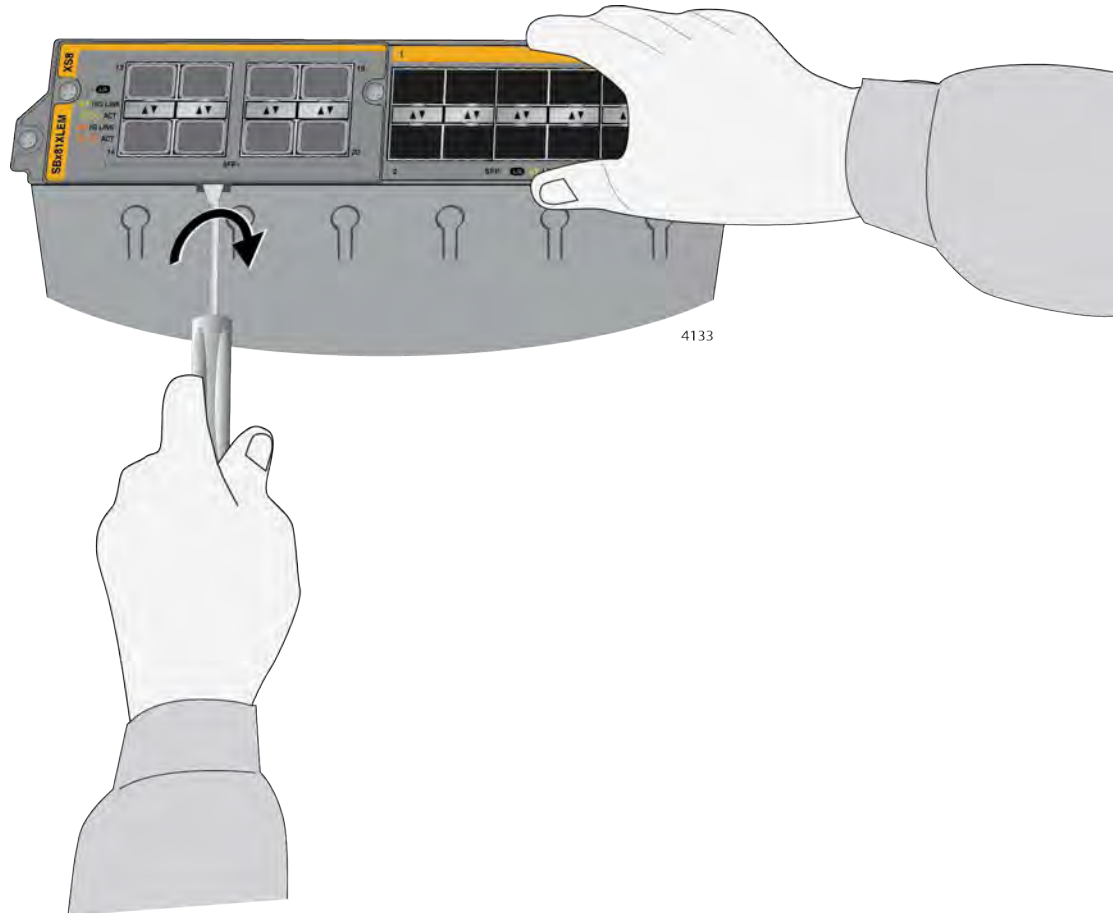

Figure 176. Disconnecting the Expansion Module from the AT-SBx81XLEM Line Card
5. Lift the front of the line card and carefully insert the tip of a flathead screwdriver into the slot beneath the expansion module on the bottom panel. Gently twist the screwdriver to disconnect the module from the connector in the line card. Refer to Figure 176.